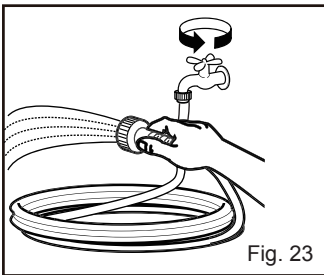

Fig. 23
- Before connecting the water supply hose to the pressure washer, run water through the water supply hose (not provided) to remove any debris (Fig. 23).